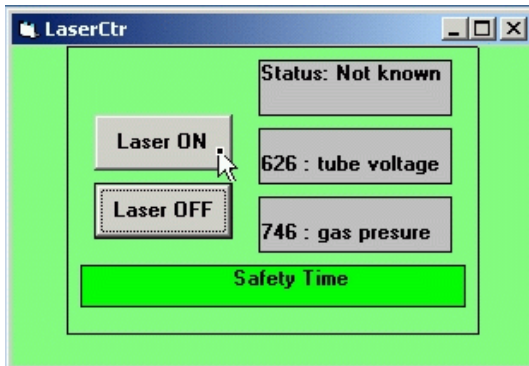

Figure 2-5: Laser control window
- DWL MENU LaserCtr: Click the *Command ON* button (figure 2-5). Note: The laser will not be able to turn on if 1) it was turned off less than 20 minutes ago or 2) the PC was powered off less than 20 minutes ago.